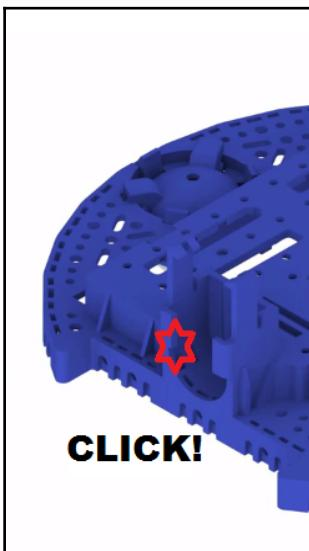

Figure 6.12: The motor clip connected to the base plate. Image courtesy of Pololu—<https://www.pololu.com>
2. Press the clip firmly into the chassis until the bottom of the clip is even with the bottom of the chassis. You may hear several clicks when you are pressing the motor clip (*Figure 6.12*):